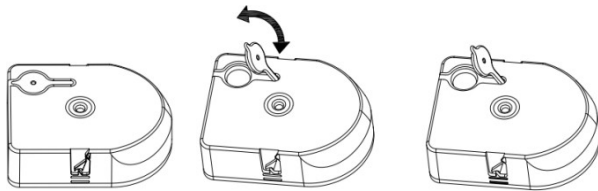

Figure 3
- 3 Pick up the iron, press the middle of the water tank, the water tank will pop up automatically. Pull out the seal on the back of water tank and inject distilled water until it full, then assemble the water tank seal (Figure 3) and install the water tank into the base (see figure 4)